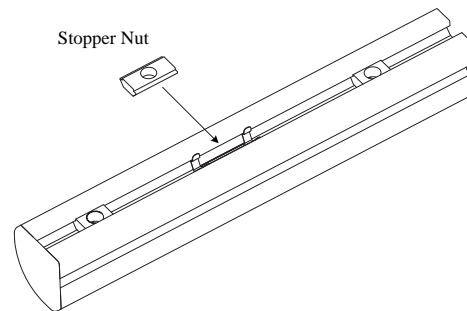
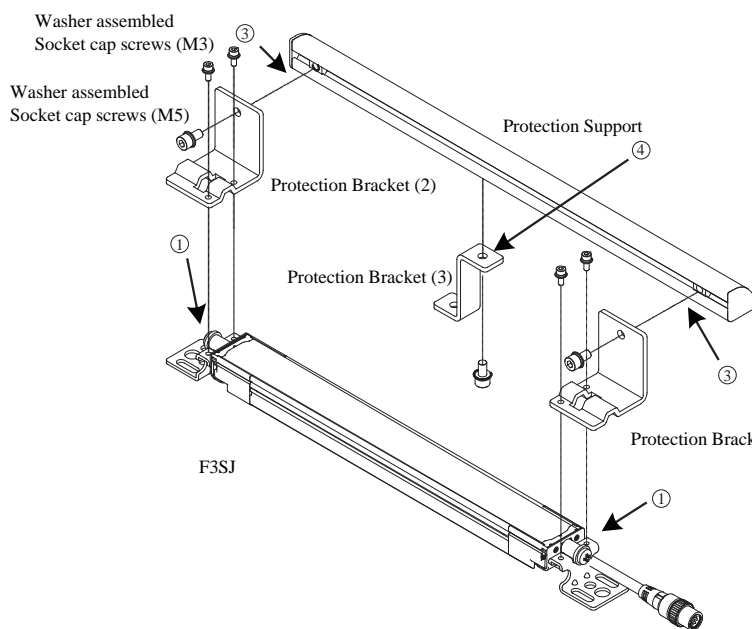
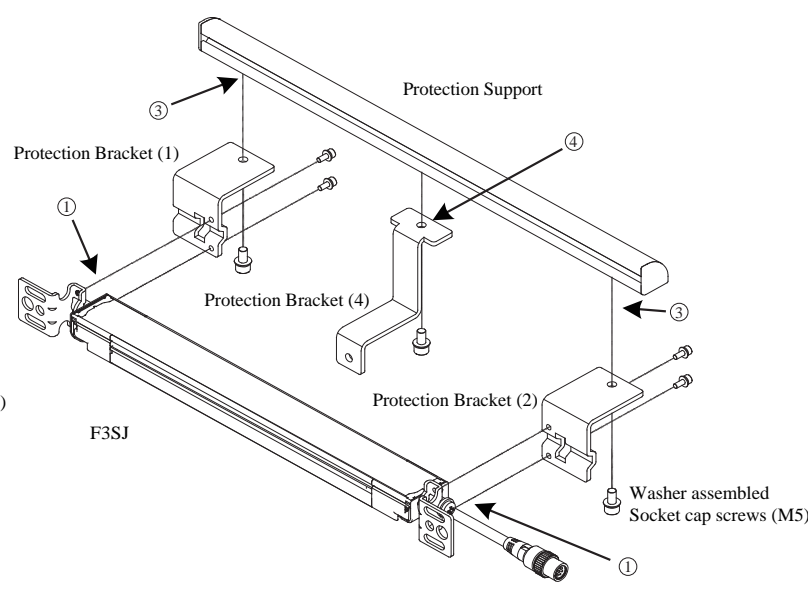

Fig. 3 Mounting a Stopper Nut
Fig. 4 Assembly Diagram (Backside Mounting)
Fig. 5 Assembly Diagram (Side Mounting)
2. Insert the stopper into the rail that the protection bracket (3) or (4) must be attached, then insert the stopper nut (Fig. 3). [Only for protectors of model F39-PJ1001-S or higher] Note that backside mounting and side mounting rails for stoppers are different (Fig. 4, 5).
3. Attach the protection support using protection brackets (1) and (2) on the F3SJ and washer assembled socket cap screws(M5). (Stopper nuts used for protection brackets (1) and (2) are already attached (Fig. 4))
4. For the backside mounting, mount a protection bracket (3) on the protection support using a washer assembled socket cap screws(M5) as shown in dimensional drawing above and Fig. 4. For the side mounting, mount a protection bracket (4) as shown in dimensional drawing above and Fig. 5.